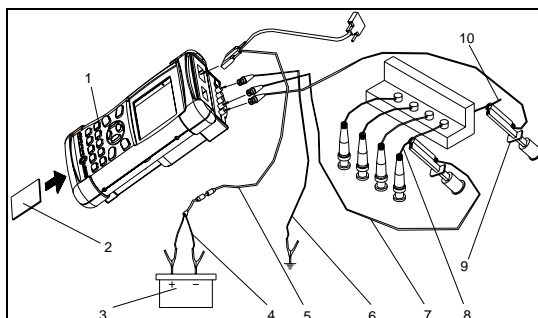

Fig.4-08
**CONNECTION 3:** Connection for primary/secondary ignition waveform test of one cylinder ignition mode with DLI is as shown in Fig.4-08. This connection is applied when the high-tension wire and primary negative lead of ignition coil are easily accessible. When such connection is used to test the secondary ignition waveform, select primary trigger mode to get the stable secondary ignition waveform. If the primary negative lead of the ignition coil cannot be found, select the secondary trigger mode to get the secondary ignition waveform.